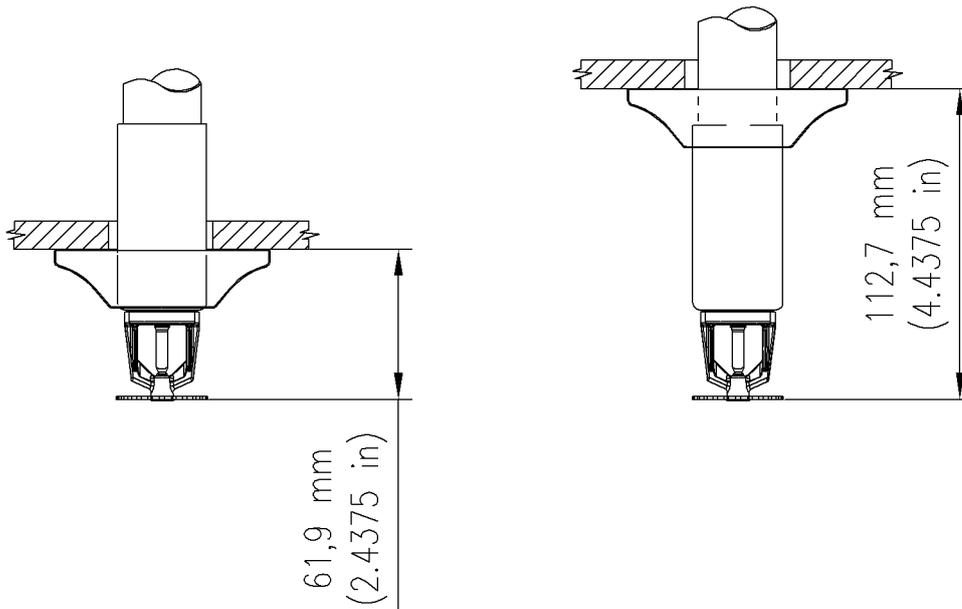

Fig. 4: Minimum (left) and maximum (right) separation of the deflector underneath the ceiling
- ➔ Observe the minimum and maximum separation of the deflector underneath the ceiling (Fig. 4).